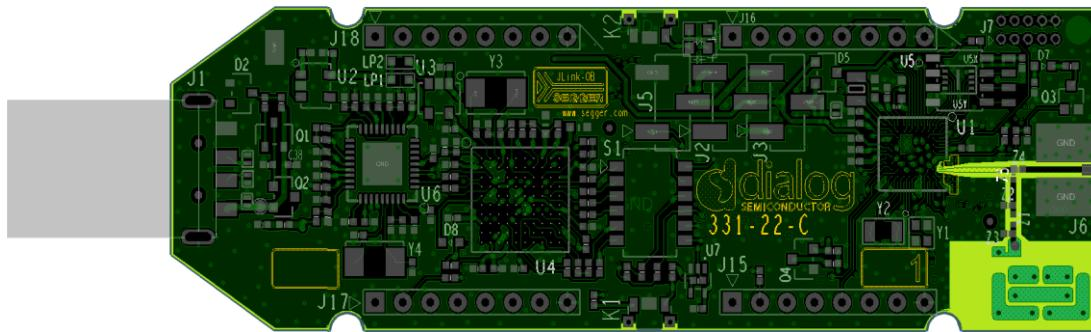

Figure 57: DA14695 USB Kit: 2522_devkt-b-usb_331-22-x
- DA14695 USB kit: 2522_devkt-b-usb_[331-22-x], Figure 57